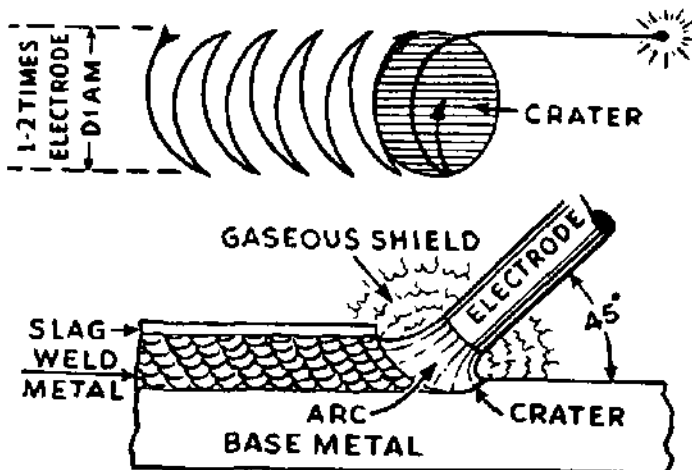

Figure 1
2. The electrode should be deposited using a narrow weave with electrode held at about a 45° angle in the direction of welding shown in figure 1. The width of the weave should be one to two times the electrode diameter and the arc length held quite short, with almost a "drag" technique. Welding is stopped by drawing the electrode back into the weld deposit to fill out the crater, and breaking the arc.
3. The arc is restruck ahead of the crater and then drawn back to where the crater begins as shown in figure 1 so that a smooth continuous bead is obtained.